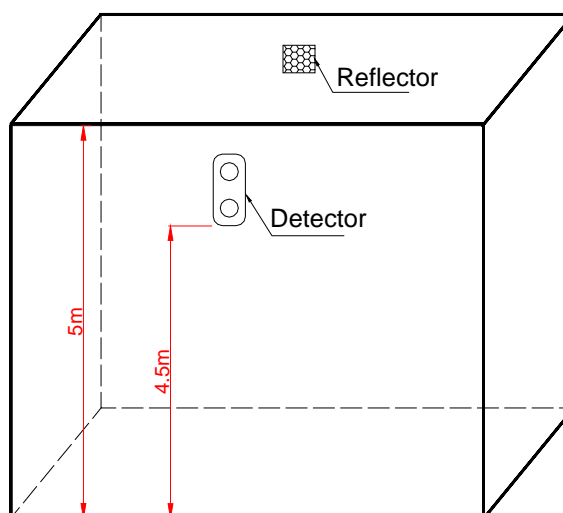

Fig. 4 Mounting
- a) When space height is not over 5m, the detector and reflector should be mounted on the two facing walls 0.5m from the ceiling, see Fig. 4.